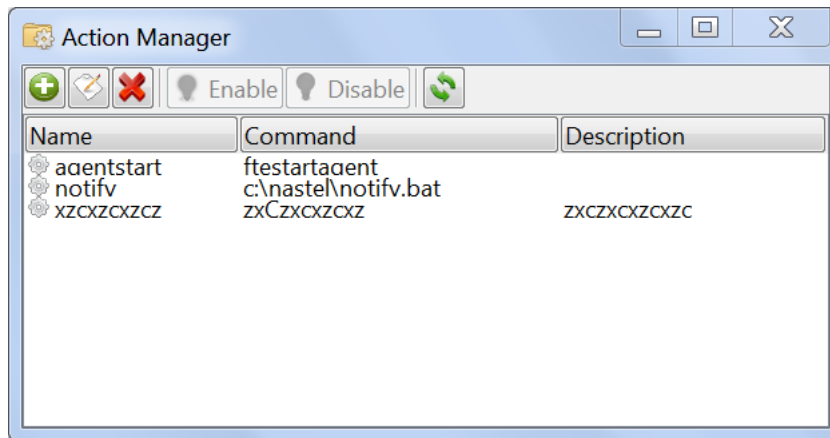

Figure 4-92. Action Manager Screen
6. Click **Save**. The action will be listed on the Action Manager screen (Figure 4-92).